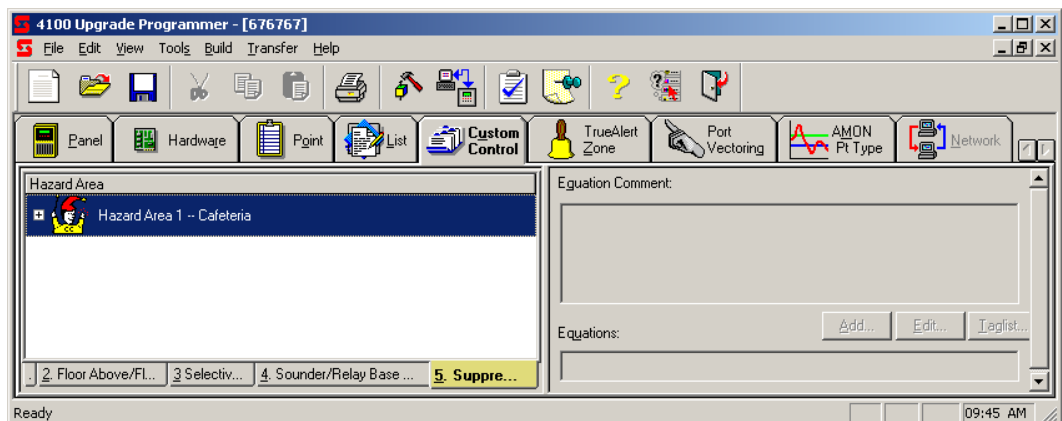

Figure 16-10. Icon Added Following Programming
When you click on Finish, an icon and label appear in the list of hazard areas shown in Figure 16-10.
To delete an existing Hazard Area, right click on the name of the hazard area (see Figure 16-10) and select the Delete Hazard Area option. A dialog appears warning you that all Custom Control equations associated with the hazard area will be deleted. The dialog also allows you to delete the list and pseudo points associated with the hazard area.
- **Using the Wizard.** Right Click on the name of an existing equation (see Figure 16-10) and select Edit Hazard Area. The wizard screens reappear in sequence. Reselect the options for the hazard area as necessary.
- **Properties.** Right click on the name of an existing equation (see Figure 16-10) and select Properties. A properties sheet, containing a series of tabs across the top, appears. Each tab corresponds to one of the groups of suppression options. Click on each tab and reselect the options for the hazard area as necessary.
- **Custom Control Equations.** Right click on the name of an existing equation (see Figure 16-10) and select Manual Edit. This allows you to edit the Custom Control equations, but it also eliminates the ability to use the wizard to edit the equations. After selecting this option, click on Custom Control subtab on the far left at the bottom of the Custom Control window. Select the program containing the hazard area's equations. Refer to Chapter 10 for information on editing Custom Control.